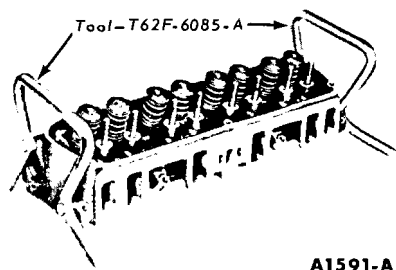

FIG. 30—Cylinder Head Holding Fixtures.
6. Install the cylinder head holding fixtures (Fig. 30). Remove the cylinder head retaining bolts and lift the cylinder head off the block. Remove and discard the cylinder head gasket.
11. Install a new valve stem seal (Fig. 30). Place the spring in position over the valve and install the valve spring retainer. Compress the valve spring and install the valve spring retainer locks. Remove the compressor tool and stud nut.